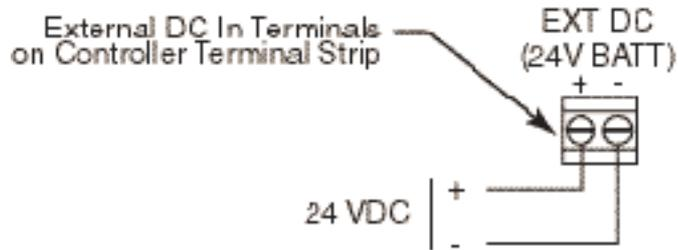

Figure 5: DC Power Wiring
3. Locate the DC power terminals on the controller terminal strip in the lower right corner of the main PCB (see **Figure 5**). They are labelled EXT DC + and EXT DC -.
6. Connect the DC wires to the controller terminal strip as shown in Figure 5.
The battery charging circuit is designed to charge lead acid type batteries. If AC power is used as primary power and a backup battery is connected to the GasScanner 1C 's EXT DC/ 24V BATT terminals as shown in Figure 5, the battery charging feature will charge the battery if it is depleted and keep it charged with a charge current of approximately 100 mA.